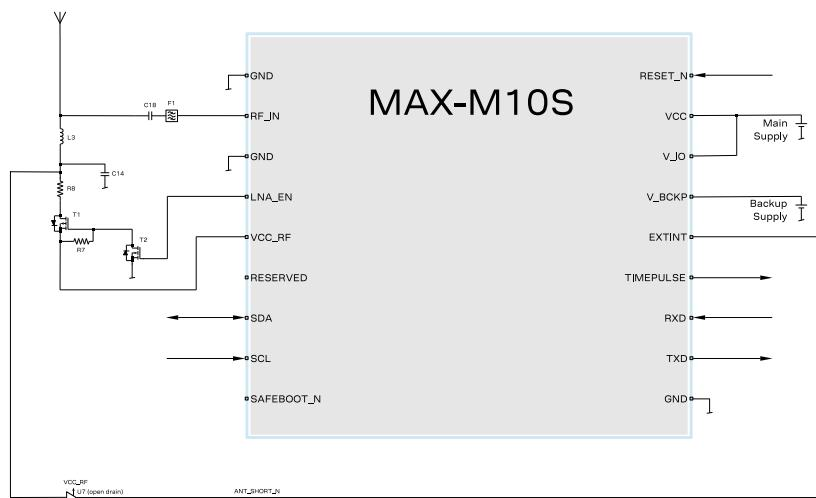

Figure 22: 2-pin antenna supervisor design
- An external SAW filter can be added in front of RF_IN as shown in Figure 22, which allows an SAW-LNA-SAW RF front-end circuit for improving out-of-band immunity against RF interference from other sources. This is especially useful when MAX-M10S is used in cellular applications.
- An external SAW filter can be placed on the RF path as shown in Figure 22, which allows an SAW-LNA-SAW RF front-end circuit for improving out-of-band immunity against RF interference from other sources. This is especially useful when MAX-M10S is used in cellular applications.